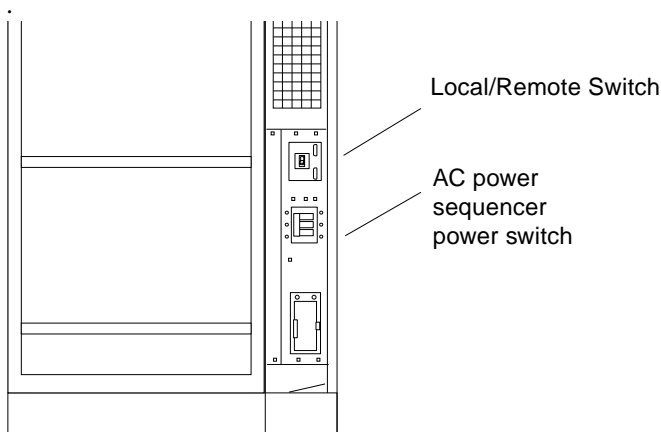

FIGURE 1-25 AC Power Sequencer—Rear View of System
3. **Turn the Local/Remote switch to Local (FIGURE 1-25).**
4. Turn on the AC power sequencer power switch (FIGURE 1-25).